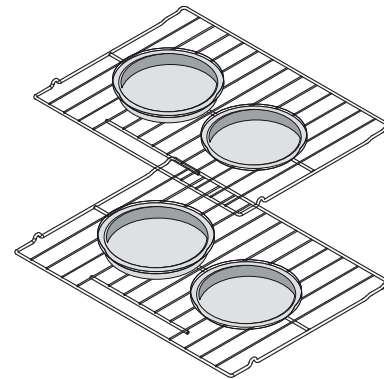
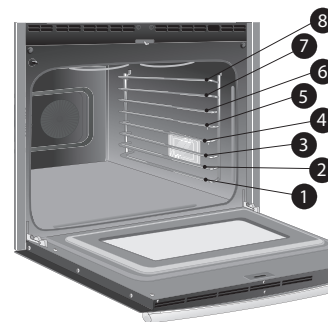

Figure 16: Baking on multiple levels
Figure 17: Oven rack positions
- For best results when baking cakes or cookies using two oven racks, place racks in positions 3 and 7 (Figure 17) and place pans as shown in Figure 16.